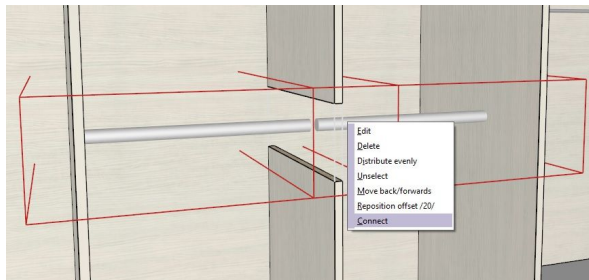

Fig . 135 – connecting two rods into one
- select the „**Connect**” option in the context menu (Fig. 135).